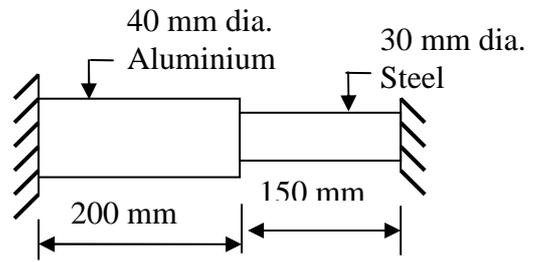

Fig.9 Q.5 (c)
- (c)** An assembly made up from Aluminium and Steel bars as shown in the fig.9, is initially stress free at temperature 32° C .The assembly is heated to bring its temperature to 82° C. Find the stresses developed in each bar. The coefficient of thermal expansions is $1.25 \times 10^{-5} / ^\circ\text{C}$ & $2.25 \times 10^{-5} / ^\circ\text{C}$ for steel and aluminium respectively. Take $E_s = 200$ GPa & $E_{al} = 75$ GPa. **06**